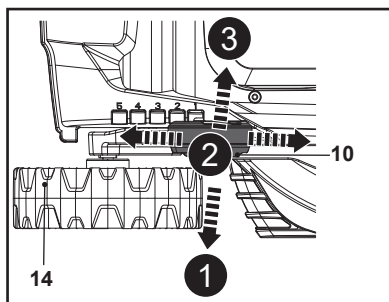

Fig. 10
1. Pull the lever for cutting height adjustment (10) towards the rear wheel (14) (Fig. 10, step 1).
2. Move the lever (10) forward or backward to adjust the cutting height (Fig. 10, step 2).
3. Release the lever (10) and ensure it engages in the slot properly (Fig. 10, step 3).